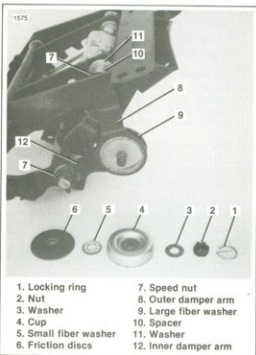

Figure 2-111. Friction Damper — 1981 and Later
- See Figure 2-111. Remove the lock ring (1), nut (2), washer (3), cup (4), small fiber washer (5) and friction disc.
- Pry off the speed nut (7), outer damper arm (8) and large fiber washer (9). Remove the spacer (10) and
3. See Figure 2-111. Install two of the large washers (11) and inner damper arm (12) on the cross shaft and secure them with a speed nut. Tighten speed nut until there is .020-.050 in. between speed nut and inner damper (12).
4. Install the large fiber washer (9) onto the inner damper arm. Install the other large washer (11), spacer (10) and outer damper arm (9) on the adjusting rod and secure them with a speed nut. Tighten speed nut until there is .050-.070 in. between speed nut and outer damper arm.